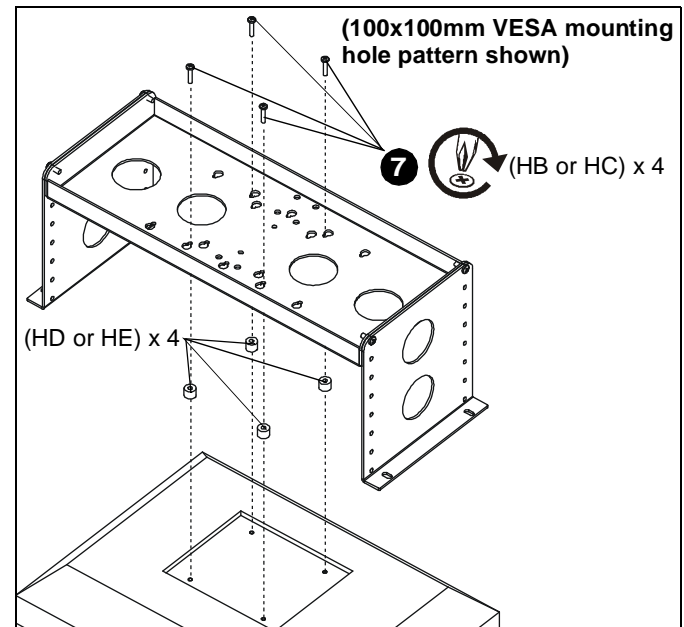

Figure 4
6. Orient the bracket assembly so that the mounting holes in the bracket assembly are aligned with the spacers. (See Figure 4)
7. Install four (or six, if applicable) of selected screws (HB or HC) through the mounting holes in bracket assembly, through spacers (HD or HE) into the display. (See Figure 4)